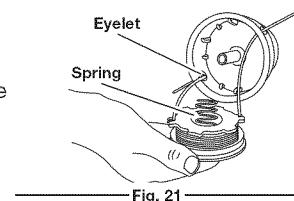

Fig. 21
- Insert or slide the ends of the line through or into the eyelets in the outer spool and place inner reel with spring inside the outer spool (Fig. 21). Push the inner reel and outer spool together.
- Insert or slide the ends of the line through or into the eyelets in the outer spool (Fig. 21).